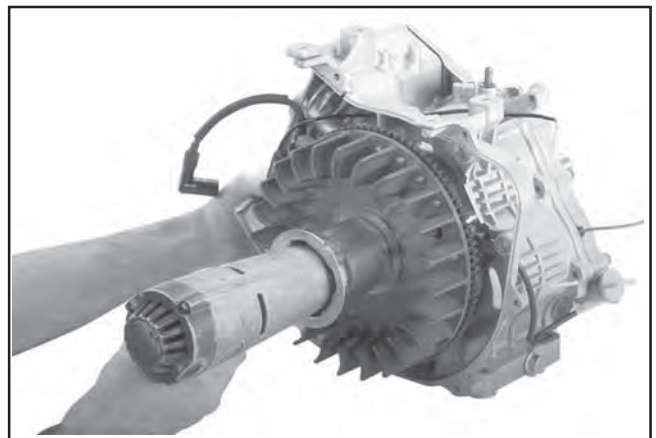

Figure 9-47. Removing Flywheel Nut using an Impact Wrench.
1. Remove the flywheel retaining nut, washer, and drive cup. See Figures 9-47 and 9-48.